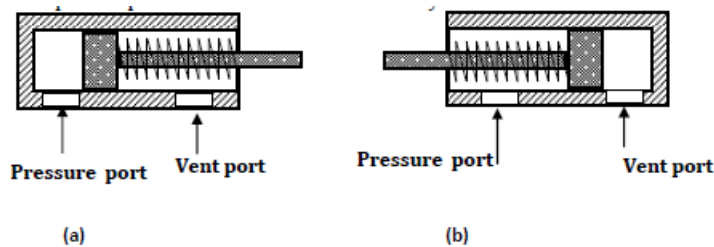

Fig.3.13 - (a) Push and (b) pull-type single-acting cylinders
- ▶ A spring-return single-acting cylinder is shown in Fig.3.13. In push-type [Fig. 3.13 (a)], the pressure is sent through the pressure port situated at the blank end of the cylinder.
- ▶ Figure 3.13 (b) shows a spring-return single-acting cylinder. In this design, the cylinder retracts when the pressure port is connected to the pump flow and extends whenever the pressure port is connected to the tank. Here the pressure port is situated at the rod end of the cylinder.